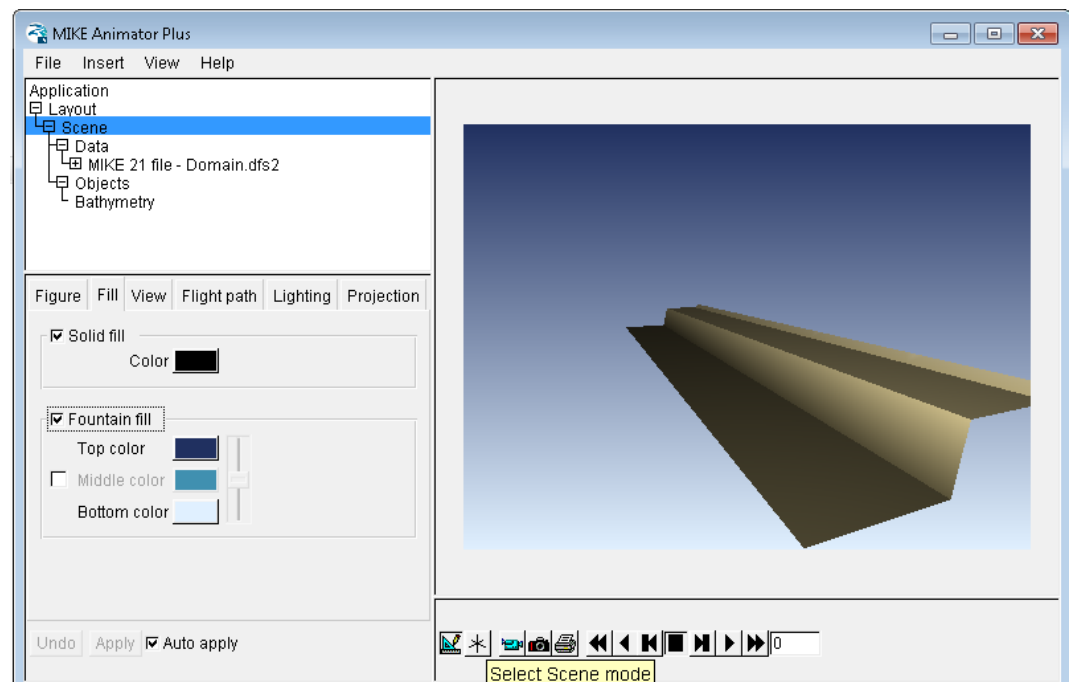

Figure 2-34 View of domain bathymetry after changing the fill colour and viewpoint
5. 'Select Scene mode' in the toolbar as shown in Figure 2-34 and change the viewpoint by click-and-drag in the graphics window.